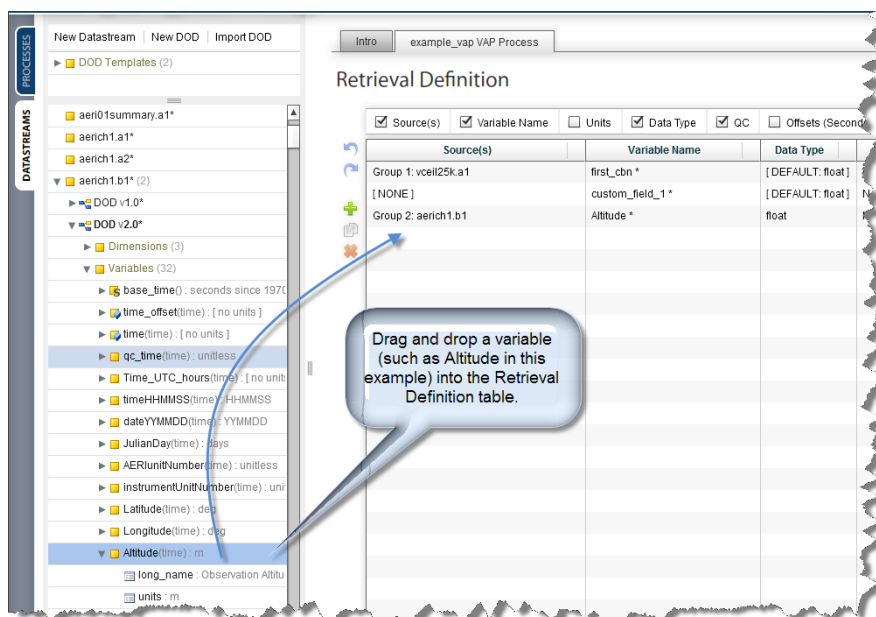

Figure 3.3. Dragging and Dropping a Variable
- d. Select the variable to retrieve it with a single click and drag the variable from the left frame and drop it into the Retrieval Definition frame on the right (Figure 3.3).